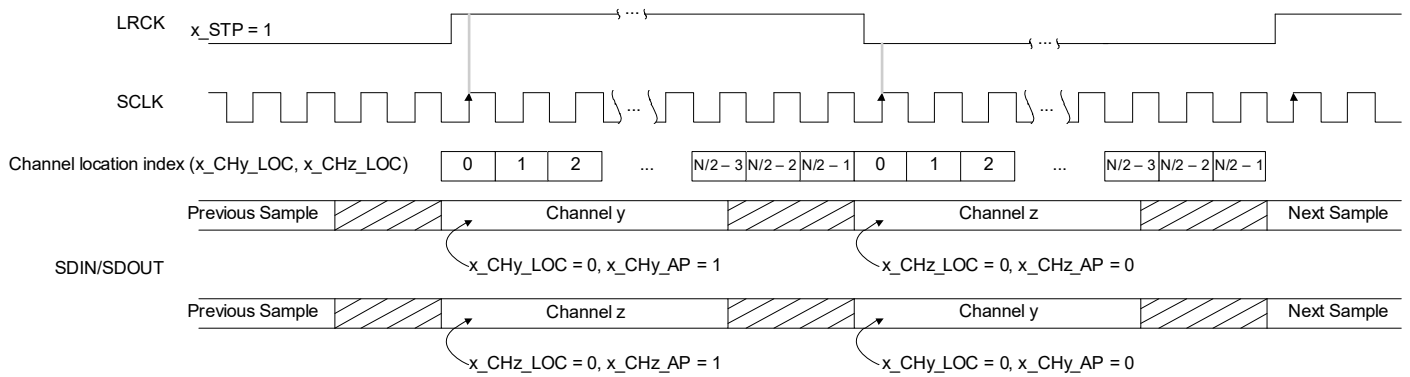

Figure 4-38. Example 50/50 Mode (`ASP_STP = 1`)
- If `ASP_STP = 1`, the frame begins when LRCK/FSYNC transitions from low to high. See Fig. 4-38.